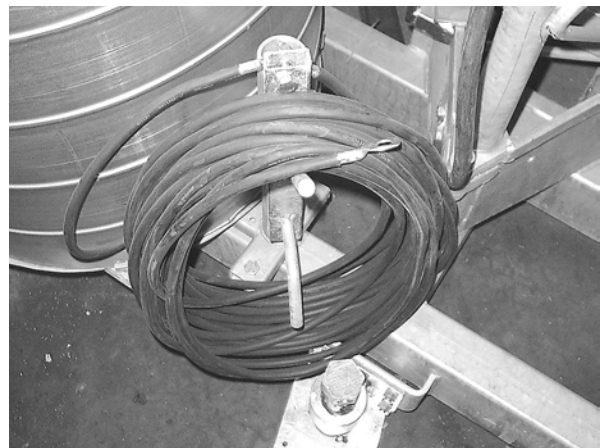

Fig. 6-10 Lightning protection
1. The mast has to be grounded to the lightning conductor or another grounded point with a 25 mm² (0.039 Inch²) cable (fig. 6-10). A grounding point can often be found at the building site assembly. Consult the expert at the construction site for the grounding point. A 25 m (82 Ft) (cable with a 25 mm² (0.039 Inch²) diameter) is included as a standard accessory.